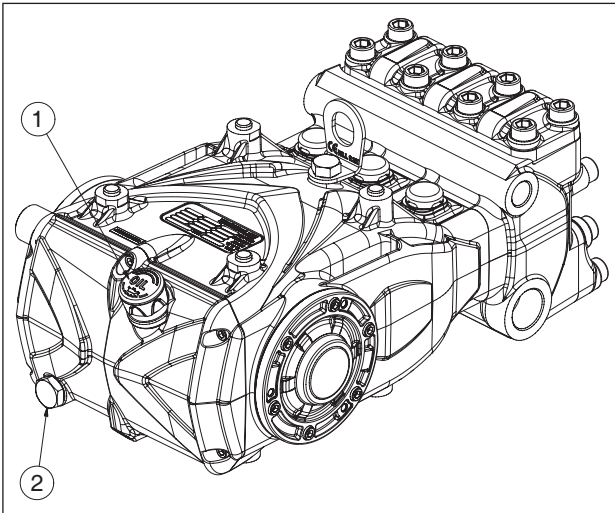

Fig. 1
To remove the oil it is necessary to remove: the oil dipstick ① and the plug pos. ②, Fig. 1.